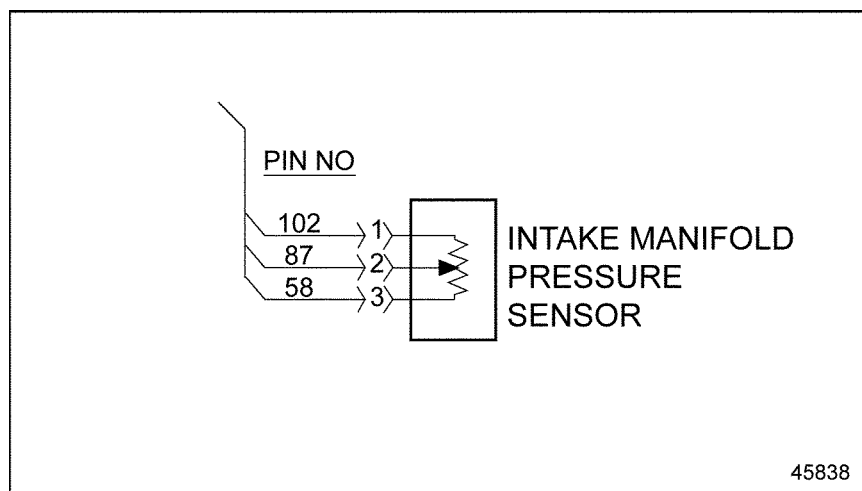

Figure 41-2 Intake Manifold Pressure Sensor
3. Measure the resistance between pins 1 and 2 of the sensor. See Figure 41-2.